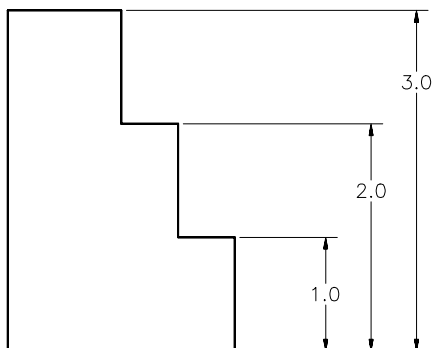

Figure 22-26 Staggered dimensions
4. For parallel dimension lines, the dimension text can be staggered if there is not enough room between the dimension lines to place the dimension text. You can use the AutoCAD Object Grips feature or the **DIMEDIT** command to stagger the dimension text (Figure 22-26).